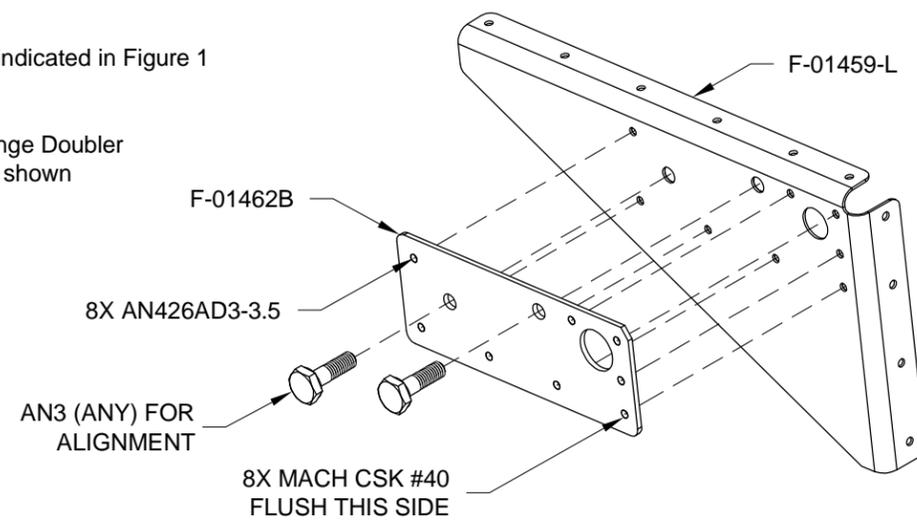

FIGURE 1: LEFT HINGE RIB ASSEMBLY
Step 1: Machine countersink the F-01462B Canopy Hinge Doubler as shown in Figure 1.
Step 2: Insert AN3 bolts into the holes indicated in Figure 1 to hold alignment while riveting.
Step 3: Rivet the F-01462B Canopy Hinge Doubler to the F-01459-L Canopy Hinge Rib as shown in Figure 1 and remove the bolts.